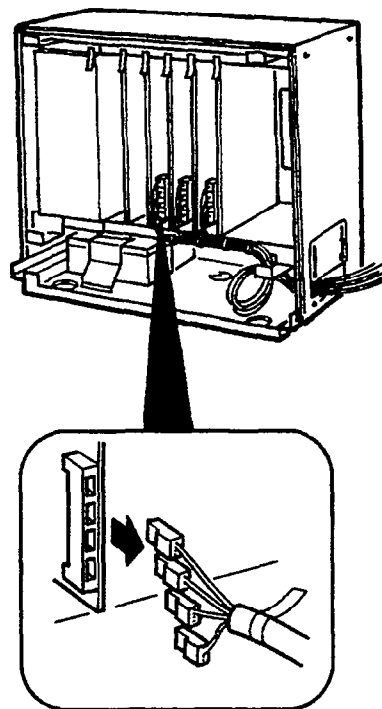

Figure 3-25 Disconnecting the KTUs from the Level II Basic KSU
3. Disconnect the connectors from the KTU(s). When disconnecting, note the position of the special connectors on the KTU. Refer to Figure 3-25 - Disconnecting the KTUs from the Level II Basic KSU.